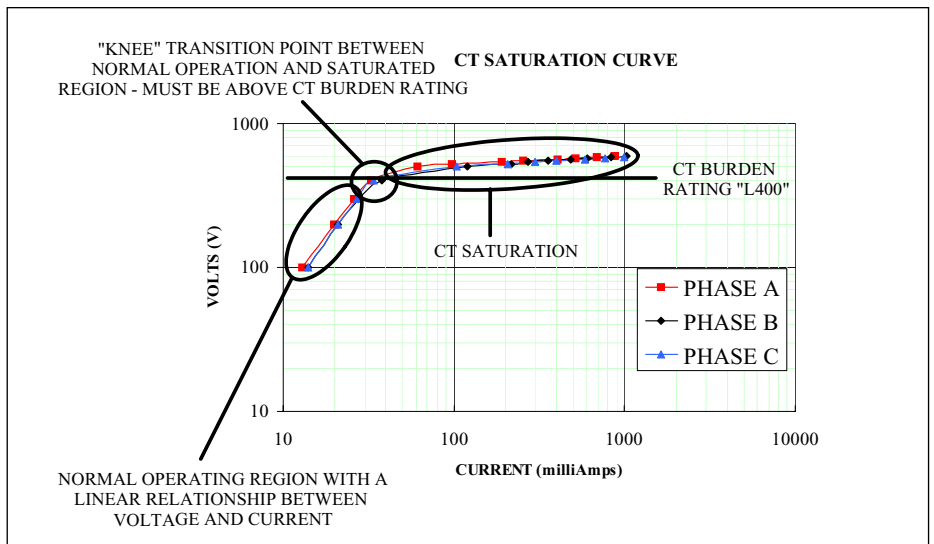

Figure 8 — Example Excitation Test Results
9. Graph the results on a log-log graph and compare to the manufacturer's supplied results. See Figure 8 to help evaluate the results.